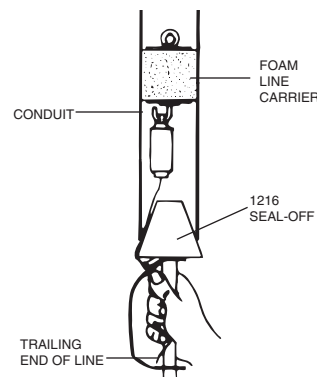

Figure 7
1. If a foam line carrier is selected, attach the Tag-Along package plastic eye to the foam line carrier hook. Pull out approximately two feet of line and hold on to the trailing end (Refer to Figure 7).
3. Hold the seal-off hose frost guard, force rubber cone firmly in the conduit entrance and squeeze the CO₂ operating valve handle. Continue to apply a flow of CO₂ until line carrier comes out the other end of the conduit. The run time will be longer than for the Power Saver line package because of the larger conduit and greater volume of CO₂ required. However, the run time in 3" and 4" conduit 200 and 300 feet long should be completed in a matter of seconds (Refer to Figure 7).